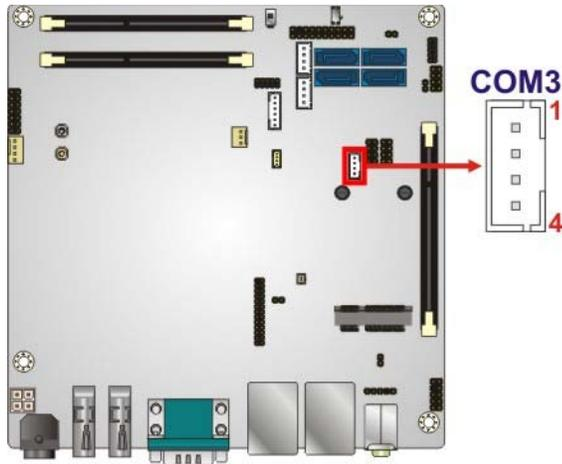

Figure 3-25: RS-422/485 Serial Port Connector Location
- CN Location:** See **Figure 3-25**